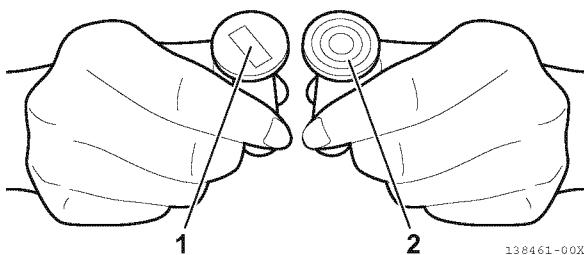

Figure 6-80
1. Inspect the tappet contact surfaces for abnormal wear (1, **Figure 6-80**). Normal wear will be even as shown in (2, **Figure 6-80**). Slight surface defects can be corrected using an oilstone.